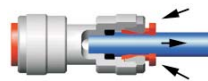

Figure 8
- Disconnect DI inlet (green tube) for purge (fig. 8). Turn on the water supply and purge the purifying system for 20 minutes. Make sure there are no leaks. Connect the DI cartridge inlet (green tube).
- For DI and postfilter replacement: Disconnect inlet tubes from DI/postfilter (fig.8). Take out DI/postfilter from the white clip of the purifier and unscrew connectors on inlet and outlet. Screw fittings to the new filter using Teflon tape. Connect green tube to inlet. Place into clip.